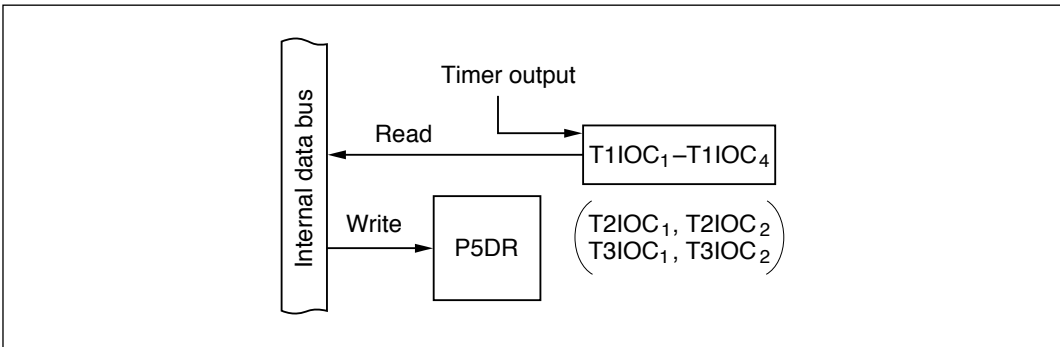

Figure 9-31 Output Compare Pins (Modes 1 to 7)
(3) Timer Output Pins (Modes 1 to 7): Figure 9-31 shows a block diagram illustrating the output compare function. Table 9-23 indicates register read/write data. When a pin in port 5 is used for output compare, the value in the port 5 data register (P5DR) has no effect on the timer output. P5DR can be read to monitor the timer output level (T1IOC₁ to T1IOC₄, T2IOC₁, T2IOC₂, T3IOC₁, T3IOC₂).